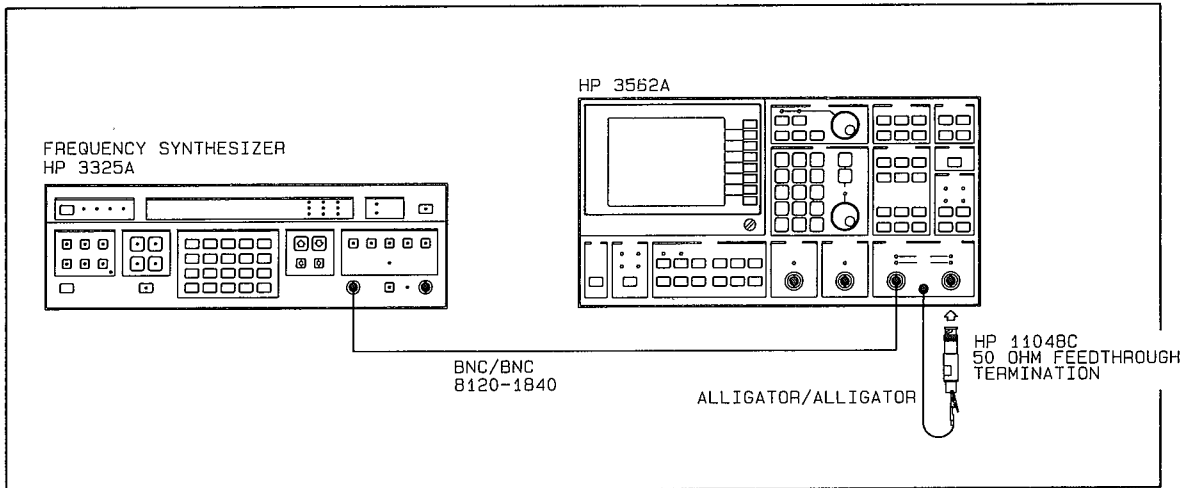

Figure 2-27 Cross Talk Channel 2 Test Setup
G. Connect the test instruments as shown in figure 2-27.